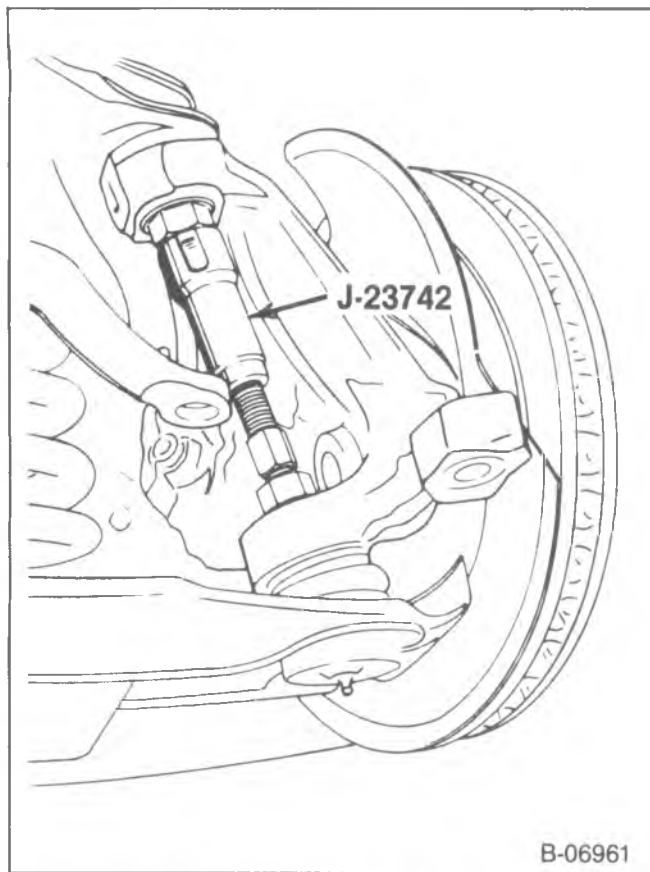

Figure 16—Disconnecting the Lower Ball Joint
7. Steering knuckle (70) from the lower ball joint (37).
- Use J-23742 to break the lower ball joint free from the steering knuckle (figure 16).